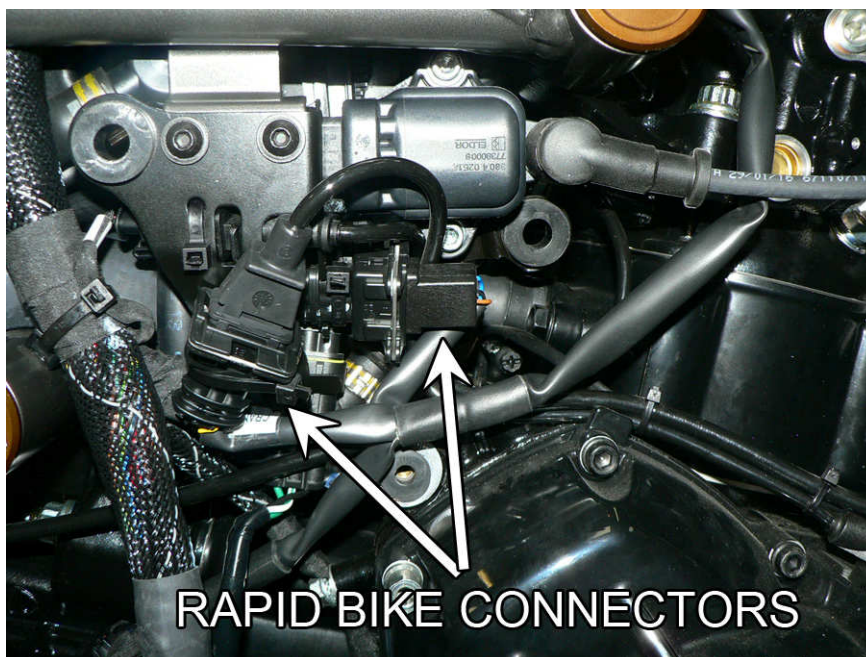

Fig.5
8. Connect the Rapid Bike connectors in-line of the stock connectors (**Fig.5**).